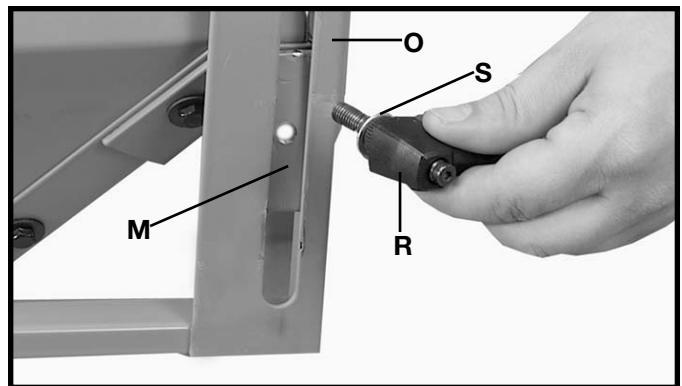

Fig. 22
2. Fasten the curtain frame (O), to the curtain frame plates (M), using handle assemblies (R), and flat washers (S) as shown in Fig. 22. **NOTE: PLACE A 5/16" FLAT WASHER (S), ONTO EACH HANDLE ASSEMBLY BEFORE THREADING THE HANDLE ASSEMBLY ONTO THE FRAME PLATE AS SHOWN IN FIG. 22.**